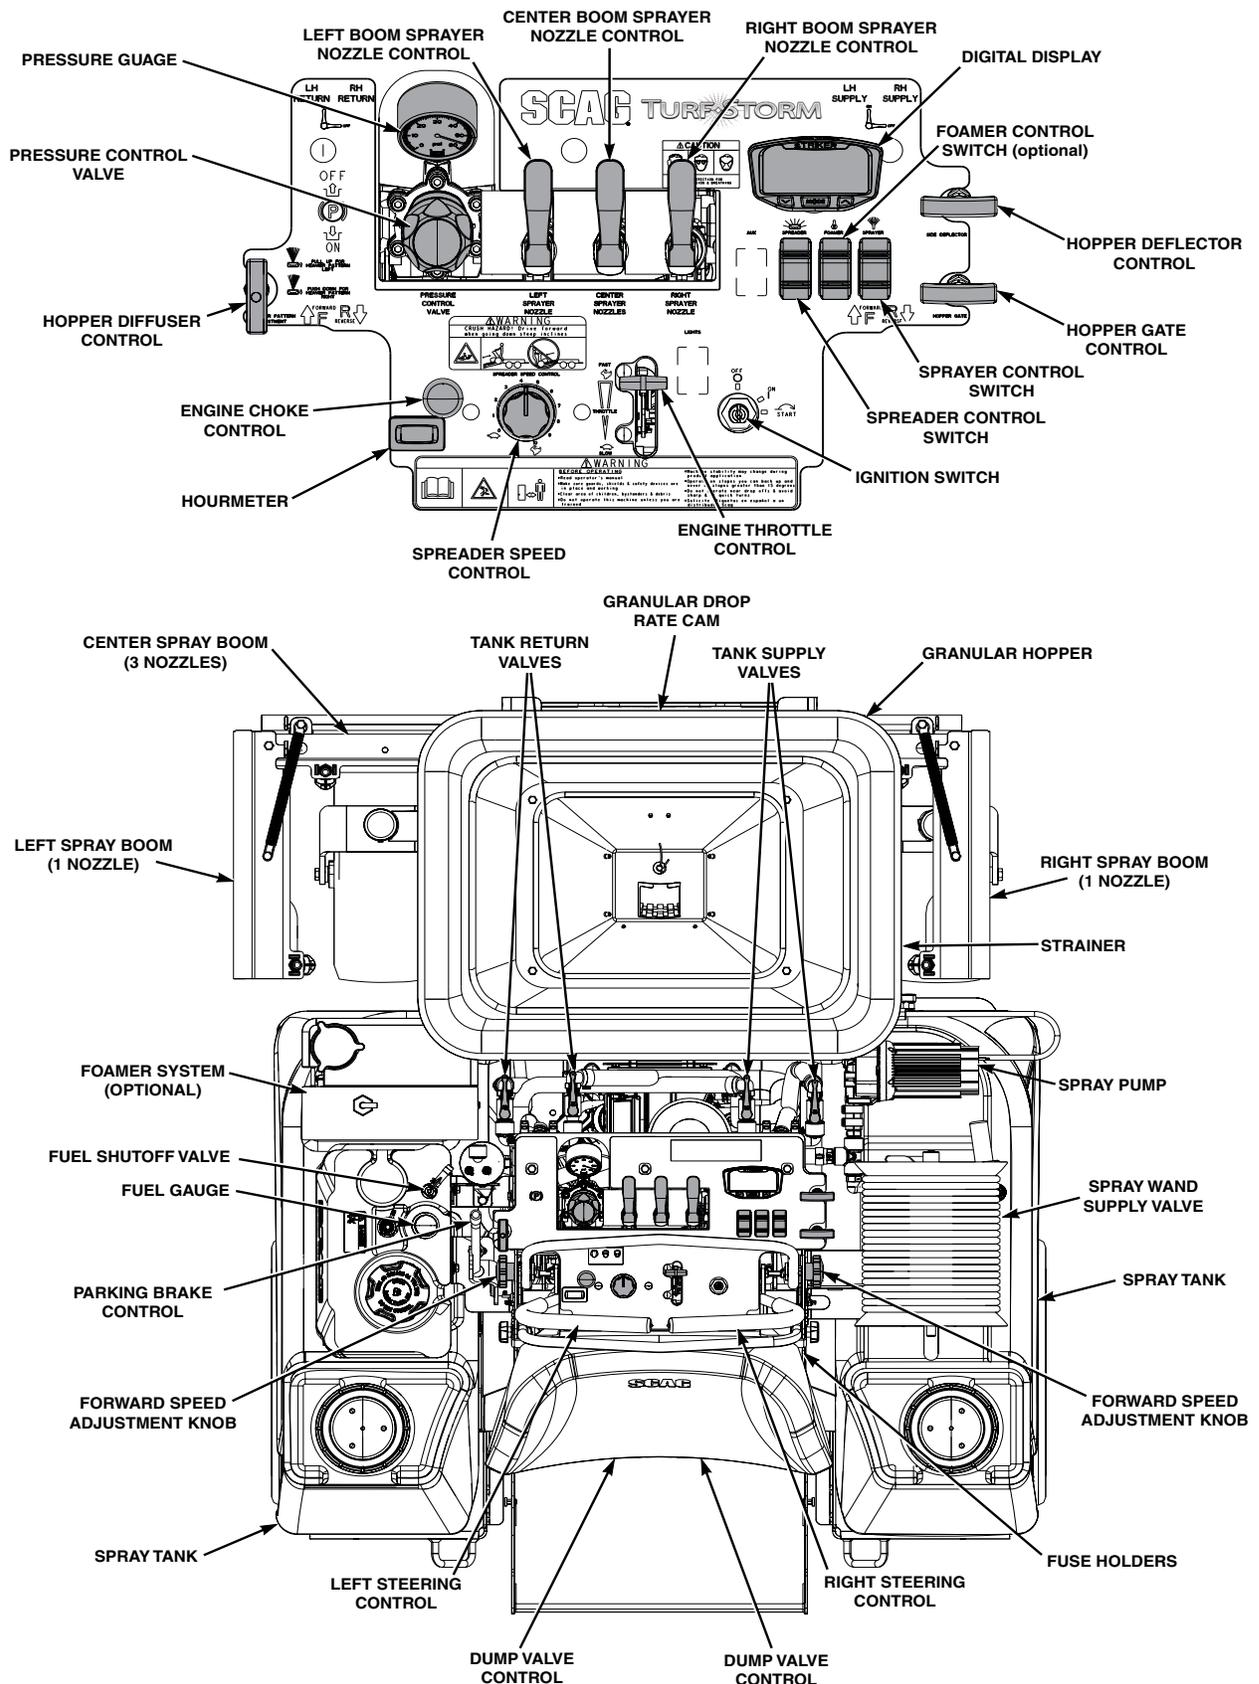

Figure 4-2. Controls and Instruments
1. Ignition Switch (Figure 4-2). The ignition switch is used to start the engine and has three positions; OFF, ON, and START.
2. Engine Choke Control (Figure 4-2). Used to start a cold engine.
3. Engine Throttle Control (Figure 4-2). Used to control the engine speed. Pushing the lever forward increases engine speed. Pulling the lever back decreases engine speed. Full back position is the IDLE position. Full forward is the driving position.
4. Left Steering Control (Figure 4-2). Used to control the machine's left wheel when traveling forward or reverse. See Section 4.7 for further details regarding the machine's travel controls.
5. Right Steering Control (Figure 4-2). Used to control the machine's right wheel when traveling forward or reverse. See Section 4.7 for further details regarding the machine's travel controls.
6. Parking Brake Control (Figure 4-2). Used to engage and disengage the parking brakes and lock the steering handles in neutral. Pull the lever back to engage the parking brakes. Push the lever forward to disengage the parking brakes.
7. Fuel Tank Gauge (Figure 4-2). Indicates the amount of fuel in the fuel tank.
8. Fuse Holders (Figure 4-2). Three (3) 20-amp fuses protect the machine's electrical system. To replace fuses, pull fuse out of the socket and install a new fuse.
9. Fuel Shutoff Valve (Figure 4-2). Located on top of the fuel tank. Used to shut off fuel supply to the engine. Rotate the valve counter clockwise to supply fuel from the tank to the engine. Rotate the valve clockwise to shut off the fuel supply to the engine.
12. Pressure Control Valve (Figure 4-2). Located in the control panel cut out, the sprayer pressure adjuster is used to adjust the spray system pressure.
13. Pressure Gauge (Figure 4-2). Located in the control panel cut out, is used to display the sprayer systems pressure. When the spray nozzles are open, the sprayer system pressure will decrease slightly. Adjust the Pressure Control Valve to compensate for the loss in pressure.
14. Left Boom Sprayer Nozzle Selector (Figure 4-2). Located in the control panel cut out, allows the operator to turn the left hand spray boom nozzle on or off.
15. Center Boom Sprayer Nozzle Selector (Figure 4-2). Located in the control panel cut out, allows the operator to turn the center spray boom nozzles on or off.
16. Right Boom Sprayer Nozzle Selector (Figure 4-2). Located in the control panel cut out, allows the operator to turn the right hand spray boom nozzle on or off.
17. Strainer (Figure 4-2). Located next to the pump, the strainer filters the sprayer system and traps debris inside of the system before reaching the sprayer pump.
18. Tank Supply Valves (Figure 4-2). Located in front of the control panel, these valves control the draw from the tanks and supply the sprayer system.
19. Tank Return Valves (Figure 4-2). Located in front of the control panel, these valves control the return flow to the tanks from the sprayer system.
20. Hopper Diffuser Control (Figure 4-2). Located on the control panel, the hopper diffuser control allows the user to equalize the the material spread from side to side.
21. Spreader Speed Control (Figure 4-2). Located on the control panel, the spreader speed control, controls the speed of the spreader motor and should be adjusted to control the width of the spread pattern.
22. Granular Drop Rate Cam (Figure 4-2). Located in front of the machine below the hopper, is used to control the drop rate of the granular product from the hopper.
23. Granular Hopper (Figure 4-2). Located at the front of the machine, the granular hopper has a 220# (100 kg) capacity.
24. Spreader Control Switch (Figure 4-2). Located on the control panel, the spreader control switch activates / deactivates the spreader motor. Stepping off the operator platform will also shut off the spreader motor.
26. Hopper Deflector Control (Figure 4-2). Located on the control panel, the hopper deflector control activates / deactivates the side deflector for the spreader system.
27. Hopper Gate Control (Figure 4-2). Located on the control panel, the hopper gate control opens / closes the hopper gate.
28. Sprayer Control Switch (Figure 4-2). Located on the control panel, the sprayer control switch activates / deactivates the pump for sprayer system.
29. Foamer Control Switch (Figure 4-2). (optional accessory). Located on the control panel, the foamer control switch activates / deactivates the foamer system.
30. Left / Center / Right Spray Booms (Figure 4-2). Located on the front of the machine, the spray boom is divided into 3 sections (left, right, and center) and are controlled by each boom's Sprayer Nozzle Control lever.
31. Nozzles (Figure 4-2). Located on the spray boom, the nozzles produce a fine mist for proper application of product.
32. Spray Wand Supply Valve (Figure 4-2). Located by the hose reel, the valve controls the draw from the tanks and supplies the hose reel with chemicals.
33. Spray Tank (Figure 4-2). Located on both sides of the machine, are used to mix and supply chemicals to the sprayer system.